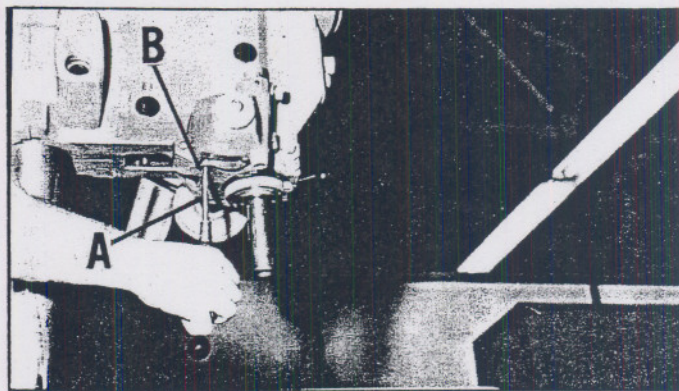
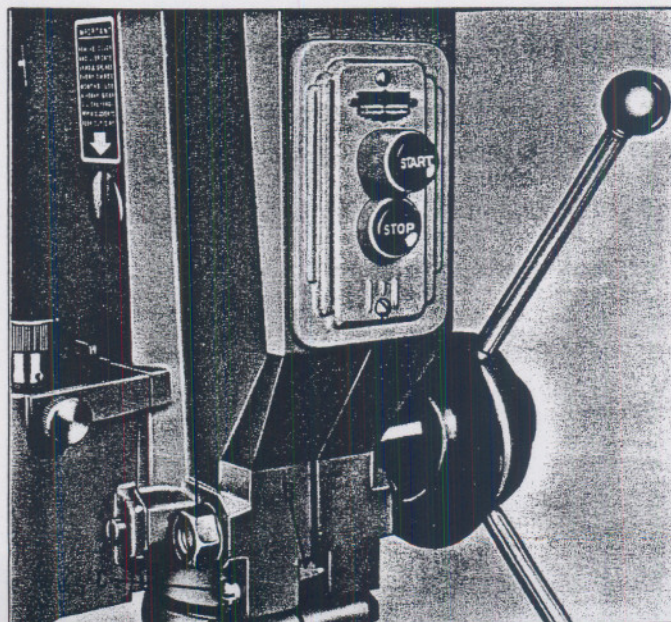
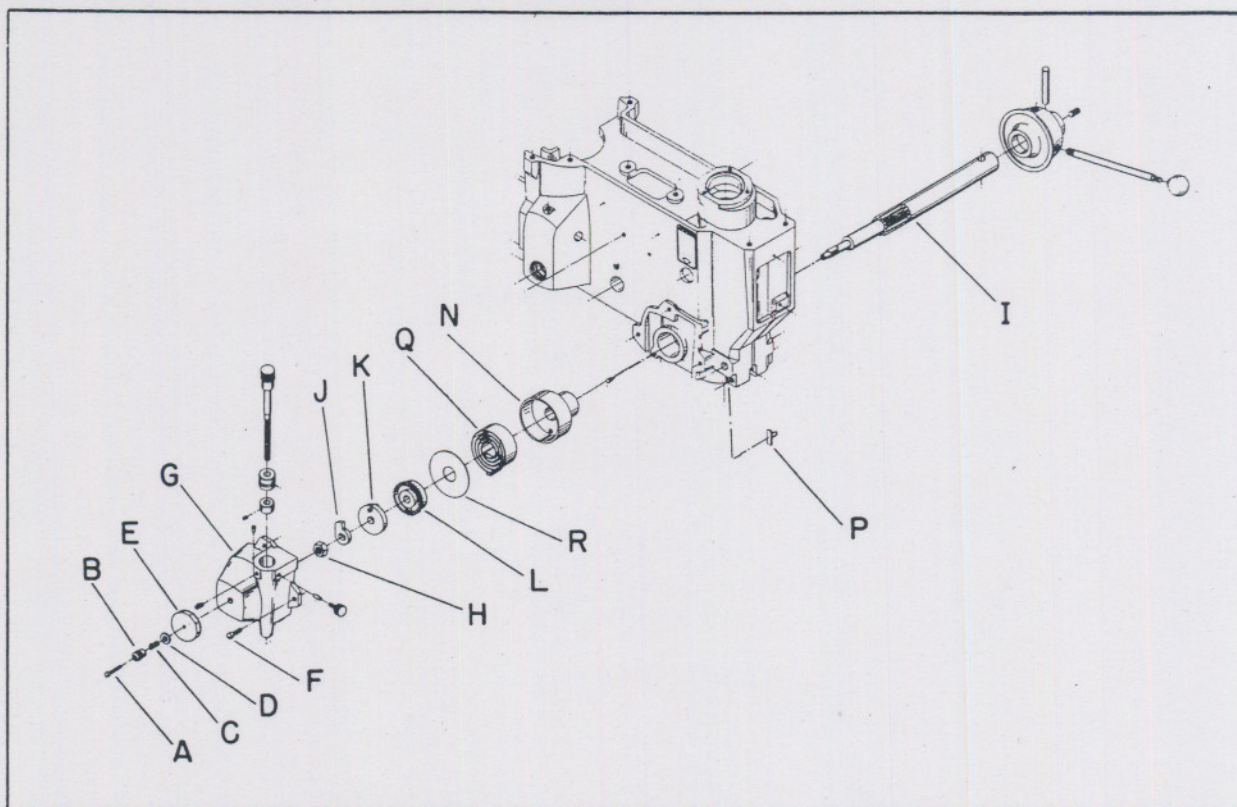

Fig. 1.
Fig. 5.
Fig. 6.
1. Place a screwdriver (A) Fig. 1, in the slot (B), and turn the screw clockwise to increase or counterclockwise to decrease tension. **CAUTION: BE CAREFUL NOT TO BOTTOM RETURN SPRING WHILE TURNING SCREW IN SLOT (B) FIG. 1, CLOCKWISE. THERE SHOULD BE ENOUGH SLACK LEFT IN SPRING TO PERMIT LOWERING THE SPINDLE THE FULL AMOUNT OF TRAVEL.**
The quill can be locked at any desired point in its travel by tightening the quill locking nut (A) Fig. 5. This is an especially desirable feature for set-up of tooling for production type operations.
After considerable use, play might develop between the quill and the head casting. This play can be eliminated by loosening quill locking nut (A) and lock nut (B) Fig. 5. The screw (C) can then be turned clockwise which will draw the split halves of the head casting together to compensate for wear. When the final adjustment is accomplished tighten lock nut (B), Fig. 5.
1. Release tension on spindle return spring by placing a screwdriver (A) Fig. 1, in the slot (B) and turn the screw counterclockwise.
2. Remove screw (A), knurled knob (B), spring (C), washer (D), and feed dial (E) Fig. 6.
3. Remove three screws (F) Fig. 6, that hold the depth stop housing (G) to the head casting.
4. Lock the quill by tightening nut (A) Fig. 5.
5. Remove nut (H) Fig. 6, located at end of pinion shaft (I) and slip off stop finger (J), stop plate (K), and gear (L) from the end of pinion shaft. Remove pinion shaft (I) from right side of head casting.
6. Release nut (A) Fig. 5 and remove quill assembly and quill guide key (P), Fig. 6.
7. Place a screwdriver (A) Fig. 1, in the slot (B) and remove the spring adjusting screw by turning the screwdriver counterclockwise. Then remove the spring (Q) with housing (N) Fig. 6.
1. Replace quill assembly into drill press head, seating splines of upper spindle into sleeve of quill assembly. **CAUTION:** Before replacing the quill into the drill press head, be sure the guide key for the quill (P) Fig. 6, is inserted in the head from the inside of the head casting and engages the keyway in the quill.
2. Replace the pinion shaft (I) Fig. 6.
3. Replace the spring (Q) with the housing (N) Fig. 6. Care should be exercised to slide return spring (Q) into the slotted end of pinion shaft (I).
4. Replace spring cover plate (R), gear (L), stop plate (K) and stop finger (J), Fig. 6. Make sure the stop finger is correctly installed as shown in Fig. 6. Also the pin in the stop plate (K) must be seated in the groove of the gear (L).
5. Replace and tighten the nut (H) Fig. 6 on end of pinion shaft.
6. Replace the depth stop housing (G) Fig. 6, and tighten the three screws (F) finger tight. Check alignment of pinion shaft by lowering the quill. If binding occurs loosen the three screws (F) and gently tap the depth stop housing until the binding is eliminated. Retighten the three screws (F).
7. Replace the feed dial (E), washer (D), spring (C) knurled knob (B) and screw (A) Fig. 6.